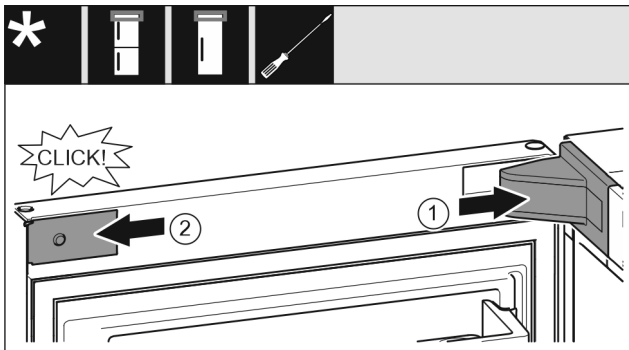

Fig. 18
- ▶ Position the bearing bracket and latch it in place. If necessary push it apart carefully. *Fig. 18 (1)*
- ▶ Position the panel on the side and latch into place. *Fig. 18 (2)*